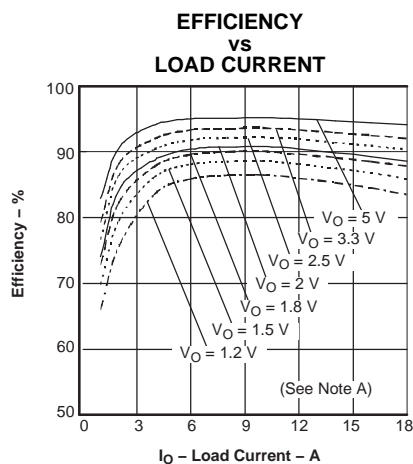
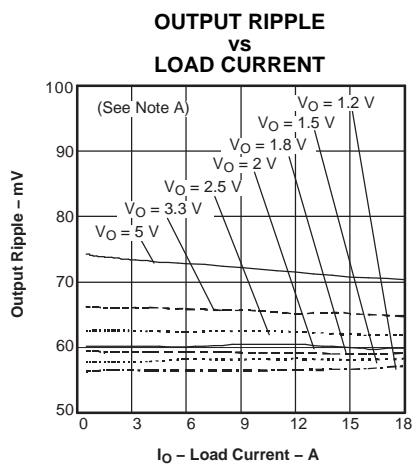
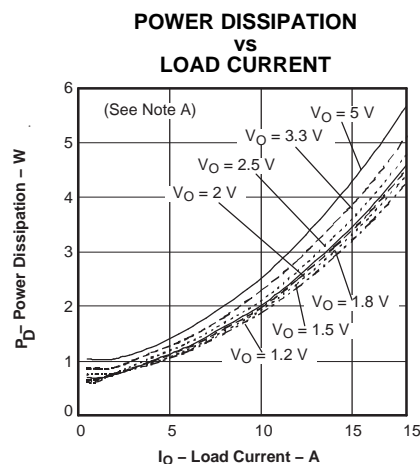

Figure 1.
Figure 2.
Figure 3.
- (1) Note A: The electrical characteristic data has been developed from actual products tested at 25°C. This data is considered typical for the converter. Applies to Figure 1, Figure 2, and Figure 3.